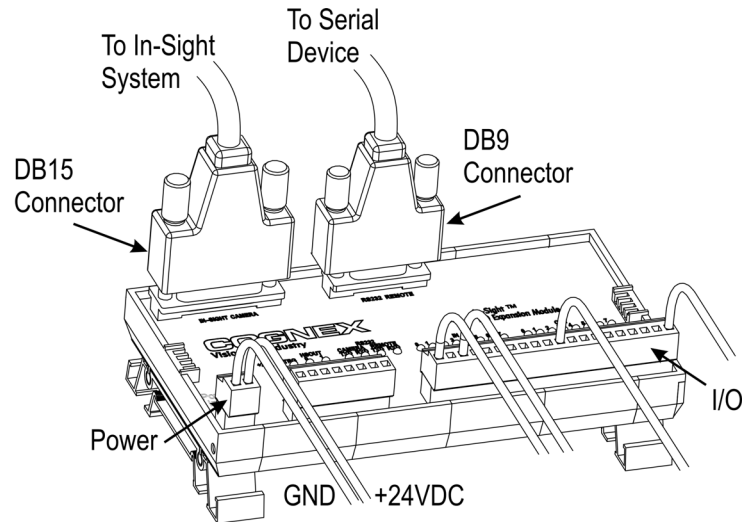

Figure 2-4: Connecting +24VDC and Ground Wires
6. Insert wire leads from a 24VDC supply for the +24V power and ground into the 2-pin terminal plug labeled “Power Input” on the Expansion Module (Figure 2-4).